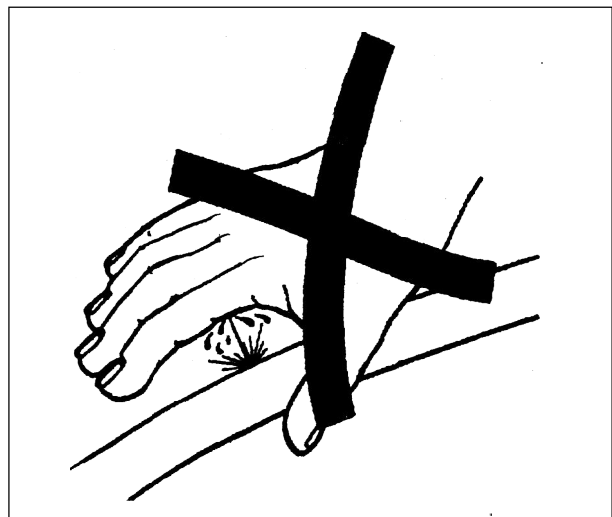

Fig. 12
**WARNING: Diesel fuel or hydraulic fluid under pressure can penetrate the skin or eyes and cause serious personal injury, blindness or death. Fluid leaks, under pressure, may not be visible. Use a piece of cardboard or wood to find leaks. Never use your bare hand. Wear safety goggles for eye protection. If any fluid is injected into the skin, it MUST be surgically removed within a few hours by a doctor familiar with this type of injury (Fig. 12).**